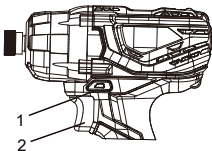

Fig. 5
The forward/reverse switch (1) is conveniently mounted above the trigger switch (2) (Fig. 5). To make the impact driver rotate clockwise for driving screws, push the forward/reverse switch to the left. To make the driver rotate counter-clockwise for removing screws, push the forward/reverse switch to the right.
2. Set forward/reverse switch to "forward" (Fig. 5).
1. Press the forward/reverse button to the RIGHT for removing nuts (Fig. 5).